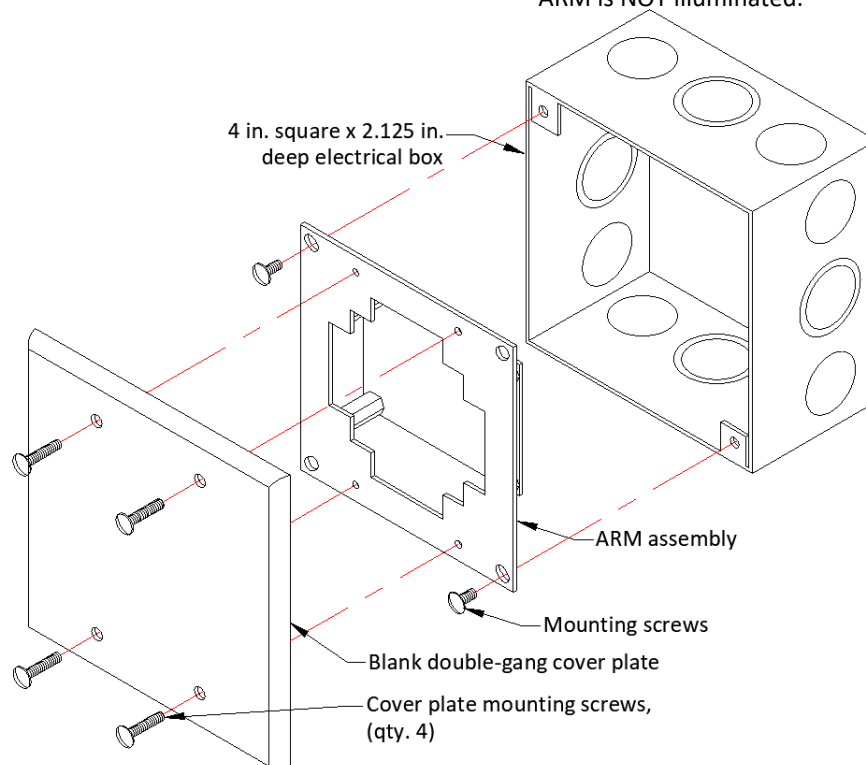

Figure 6 – ARM Assembly Mounting
- Secure the ARM assembly to the junction box using the screws supplied with the junction box. See Figure 6.
- Install the blank cover plate (supplied by others) to the ARM assembly using the screws provided with the plate. See Figure 6.